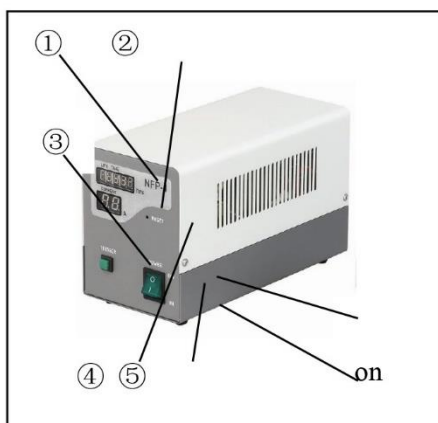
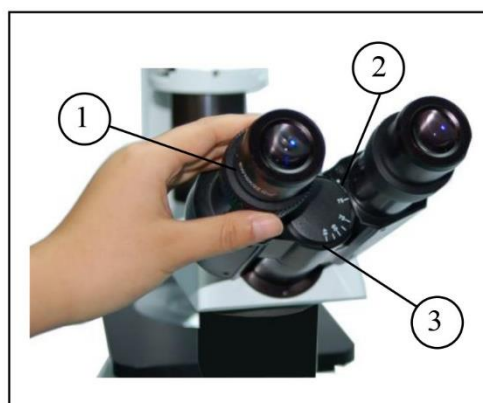

Figure 1
Figure 2
3.1.2. Function of button (Figure 1)
- ① Hour counter
- ② Ammeter.
- ③ Excitation button
- ④ Start reset button
- ⑤ Voltage switch
3.1.3. Adjusting the diopter (Figure 2)
- ❖ The reticle on the interpupillar distance indicator ③, pointed by the spot “.” ② on the eyepiece holder, shows the scale of the interpupillar distance. (Figure 2)